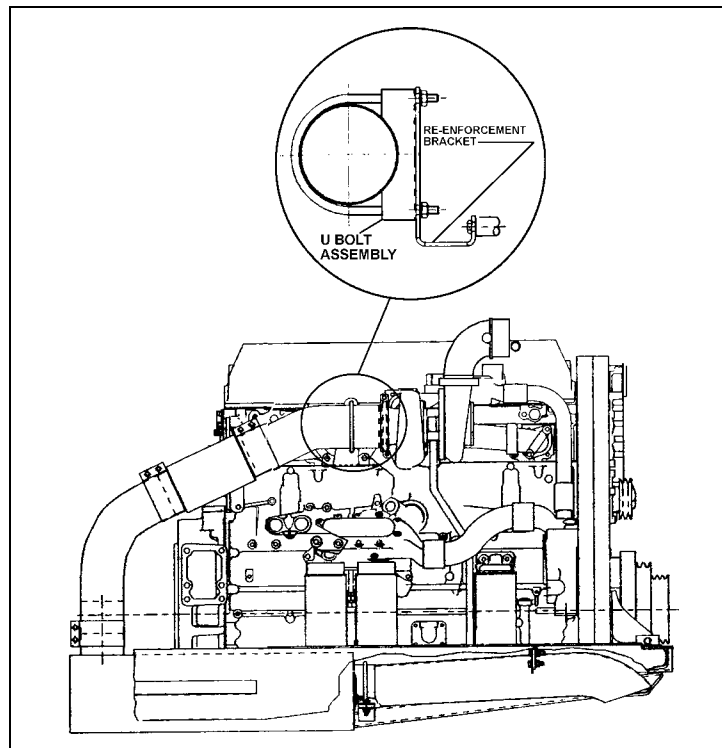

FIGURE 2: VIEW OF ENGINE - TURBOCOMPRESSOR SIDE
4. Remove two bolts which will be used to secure re-enforcement bracket (refer to fig. 2).
5. Install re-enforcement bracket (Prévost # 040517) and U bolt assembly (Prévost #540018) as shown in figure 2.